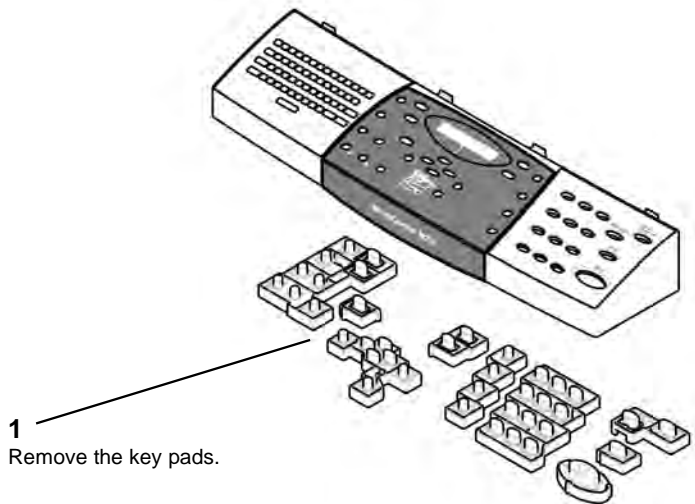

Figure 4 Key pads removal
5. Remove the key pads, Figure 4.